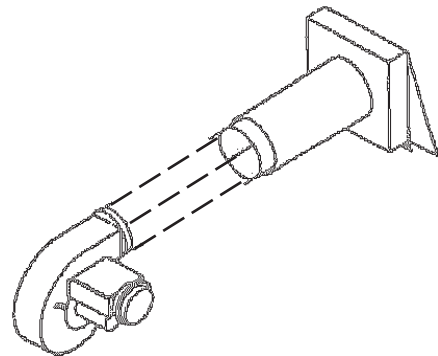

Fig. 4 Vent connection to power vent motor
3. Connect the power vent motor outlet to the inner sleeve of the vent hood (Fig. 4). Use the four pre-punched holes in the outlet collar of the power vent motor as a guide to drill  $\frac{1}{8}$ " diameter holes into the vent pipe. Fasten power vent motor outlet to the vent hood inlet using sheet metal screws. Seal the connection with high temperature silicone sealant.